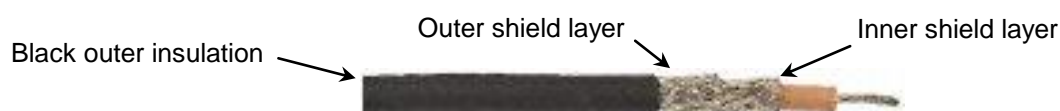

Figure 27. RG400 Co-Axial Antenna Cable
- The cable used for the Antenna should be high quality, such as RG400 (Shown in Figure 27). This cable has a double layer of shielding and better RF insulation than other cable types. Note that the coaxial cable included in most antenna kits tends to have a single layer of insulation. BNC connectors are recommended for most applications, and wherever possible crimped connectors which require a special crimper to assemble should be used. Crimped connectors are much less prone to RF leakage or assembly issues than other types (such as screw-together BNC connectors).